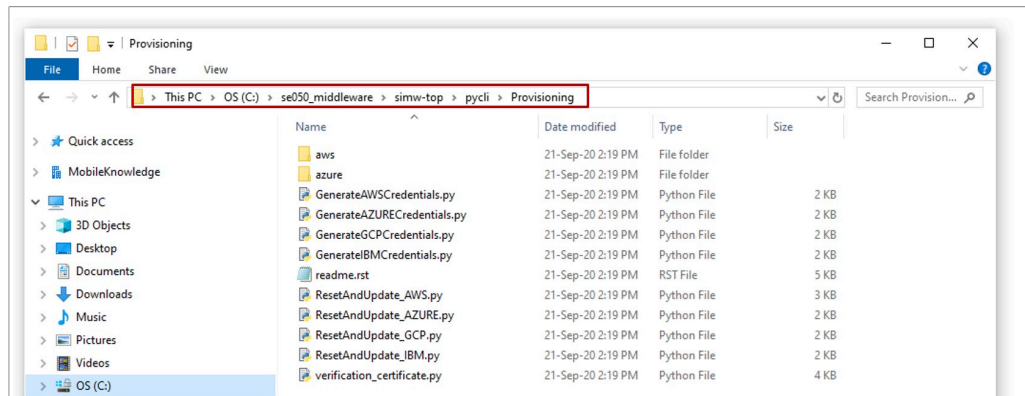

Figure 35. Provisioning scripts folder
- Go to `simw-top\pycli\Provisioning` folder, where you can find a set of scripts to generate and inject credentials in EdgeLock SE050, as shown in Figure 35: